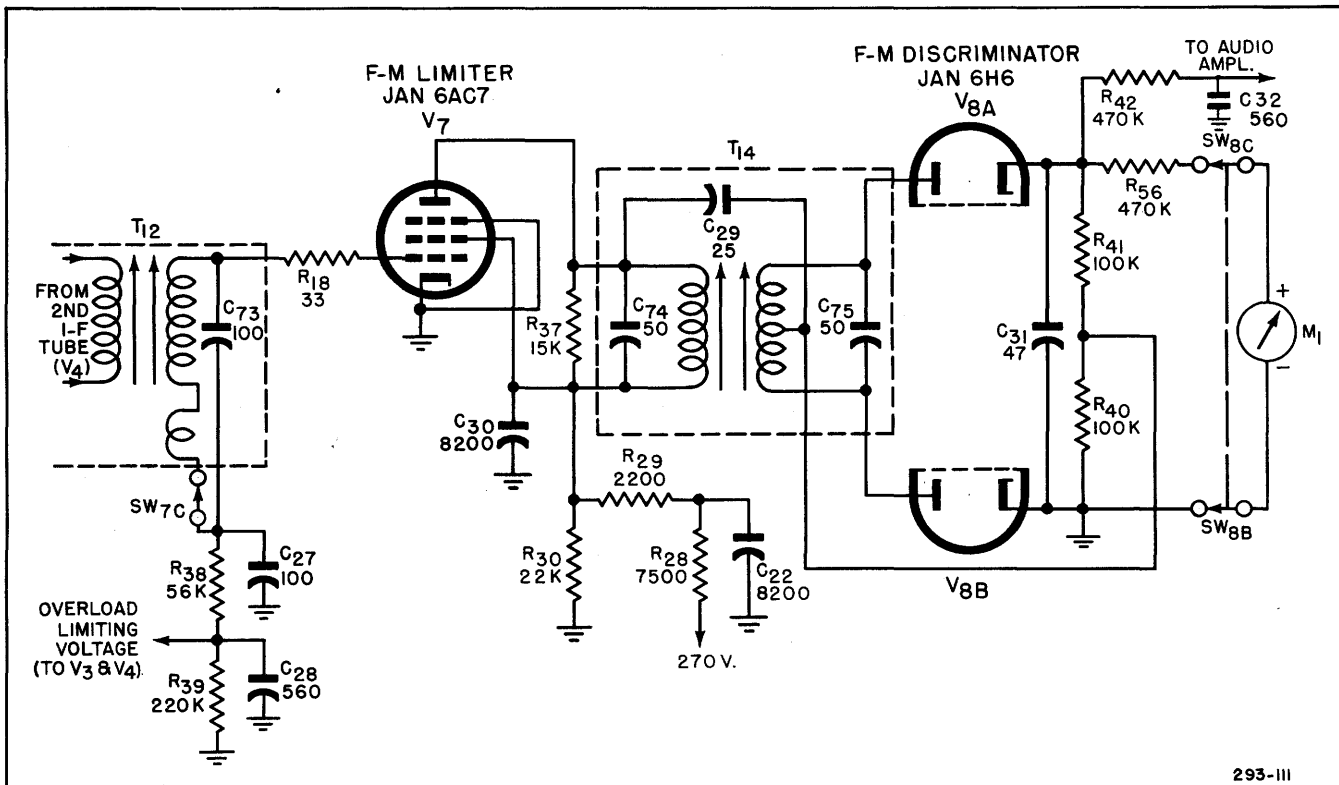

Figure 2-7: Types CHL-46130-C and CHL-46130-D Receiver, F-M Limiter and Discriminator Simplified Schematic Diagram.
(6) F-M LIMITER AND DISCRIMINATOR.—A simplified schematic diagram of the Limiter and Discriminator stages is shown in Figure 2-7.